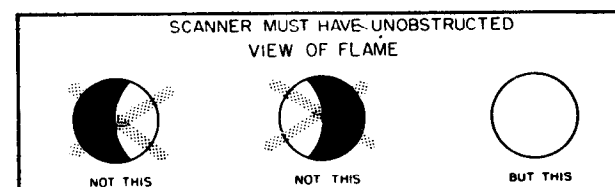

Figure 7
3. Scanner must have unobstructed view of both pilot and main flames (Fig. 7).